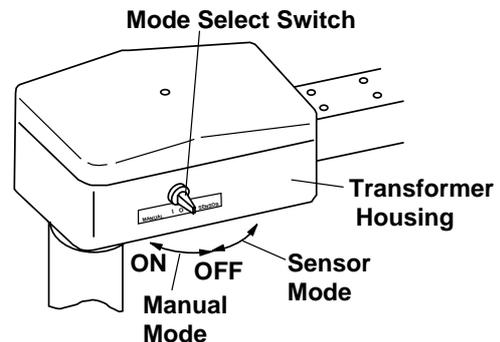

Fig.3-15 Mode Selection Switch
(1) Mode Selection Switch (Fig.3-15)